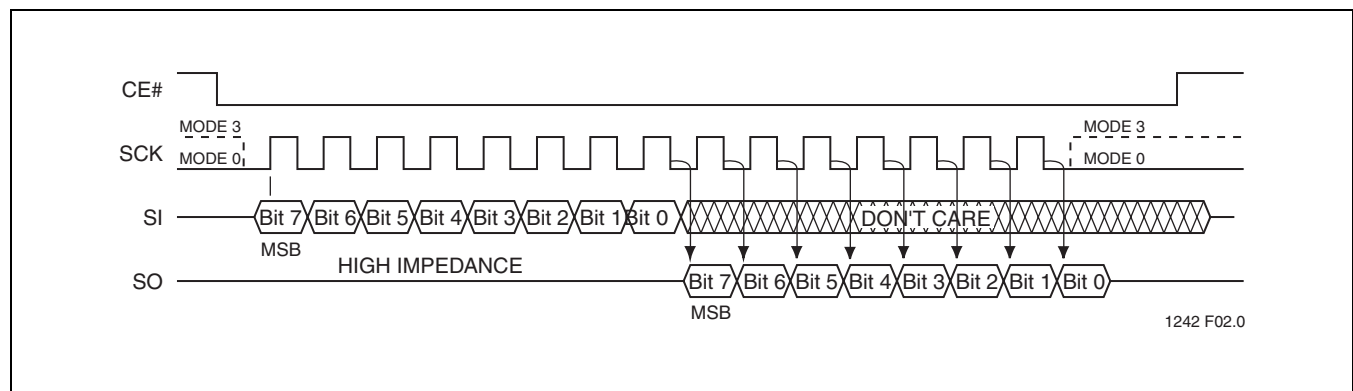

FIGURE 2: SPI PROTOCOL
The SST25LF040A supports both Mode 0 (0,0) and Mode 3 (1,1) of SPI bus operations. The difference between the two modes, as shown in Figure 2, is the state of the SCK signal when the bus master is in Stand-by mode and no data is being transferred. The SCK signal is low for Mode 0 and SCK signal is high for Mode 3. For both modes, the Serial Data In (SI) is sampled at the rising edge of the SCK clock signal and the Serial Data Output (SO) is driven after the falling edge of the SCK clock signal.